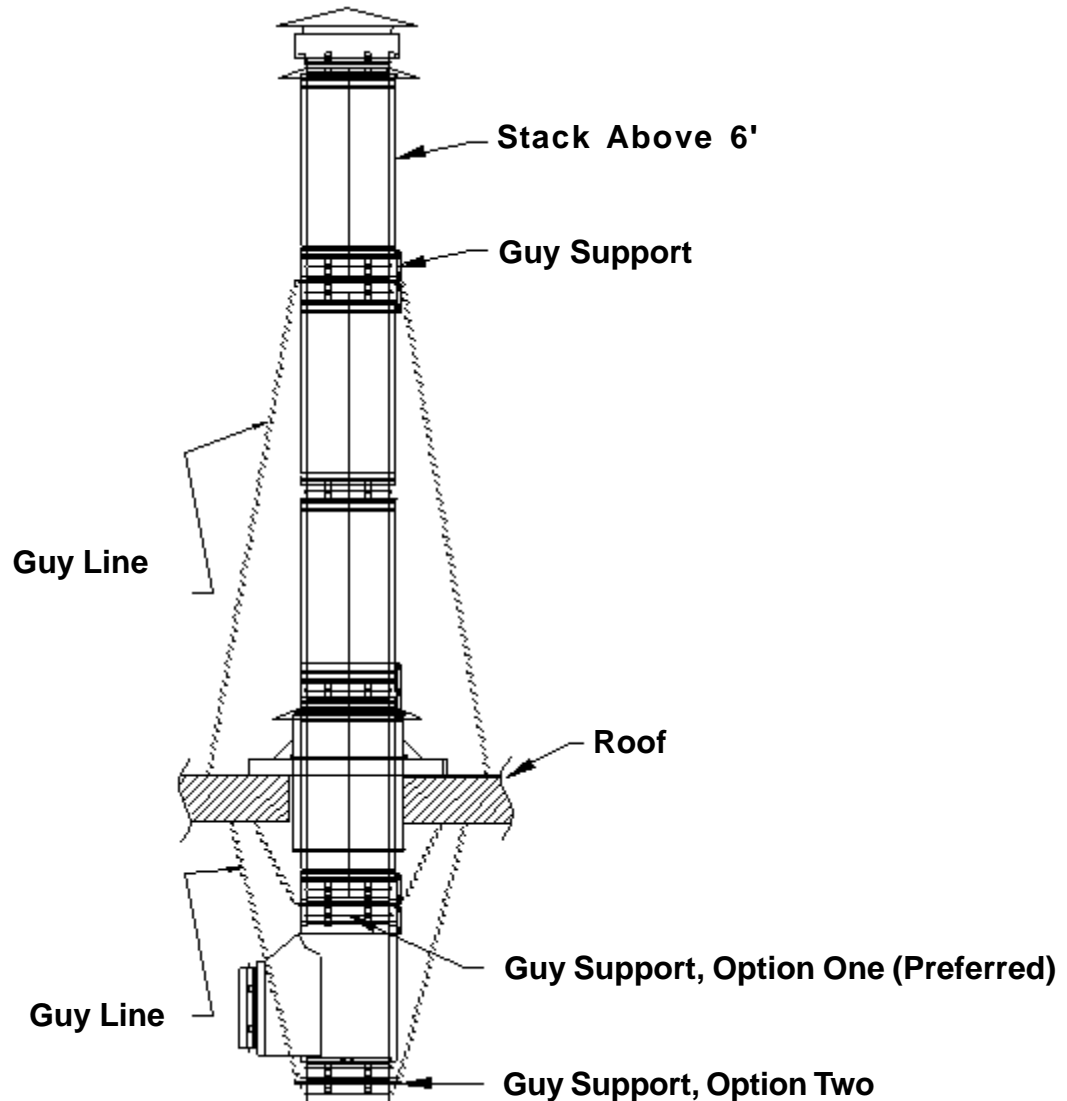

Figure 6
5. Install the coupler band over the boiler adapter to finish installation. *figure 6*.
APPLICATION 3. **Support Above a Roof (Figure 6).**